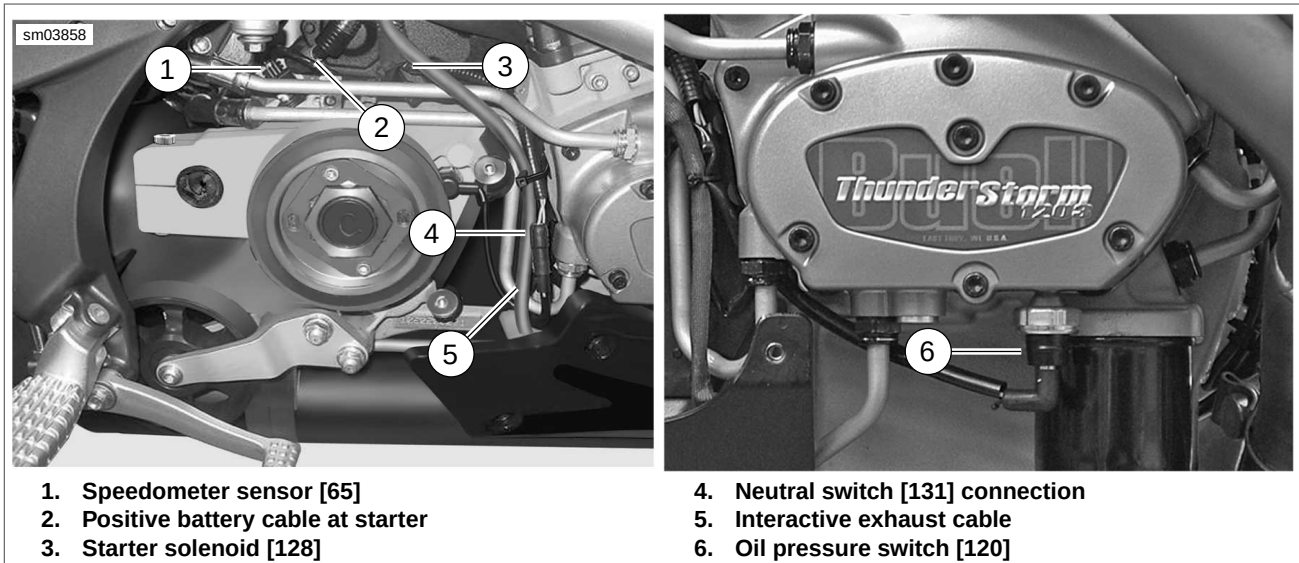

Figure 3-39. Electrical Connections on Right Side of Motorcycle
See Figure 3-39. Route neutral indicator switch and the oil pressure indicator switch wiring behind the vent oil line. Route the interactive exhaust cable in front of the vent and return oil lines and bundle all three together with a cable strap as shown.
28. See Figure 3-39 before connecting the following electrical components:
- a. Neutral switch [131] (4).
- b. Speedometer sensor [65] (1).
- c. Positive battery cable at starter (2).
- d. Starter solenoid [128] (3).
- e. Oil pressure switch [120] (6).